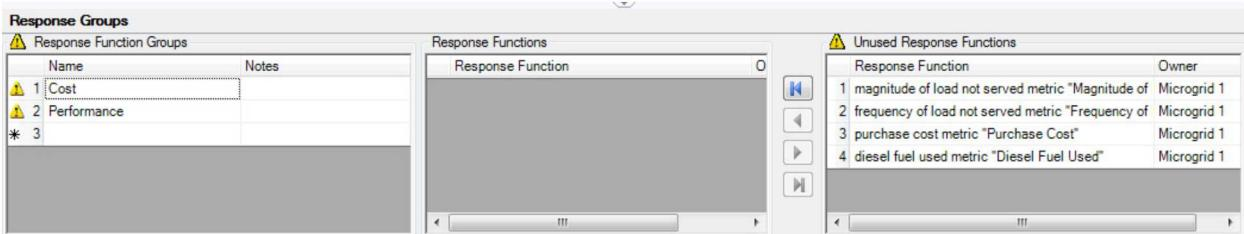
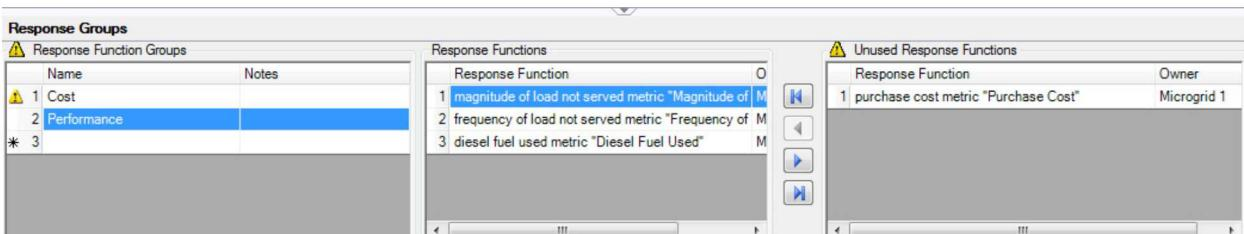

Figure 49. The “Cost” Response Function Group is empty. It contains no metrics.
Figure 50. The “Performance” Response Function Group contains three metrics.
3. Review the metrics in each group (Figure 49, Figure 50).
4. Click the right arrow button to remove the metric from the group (see Figure 50).